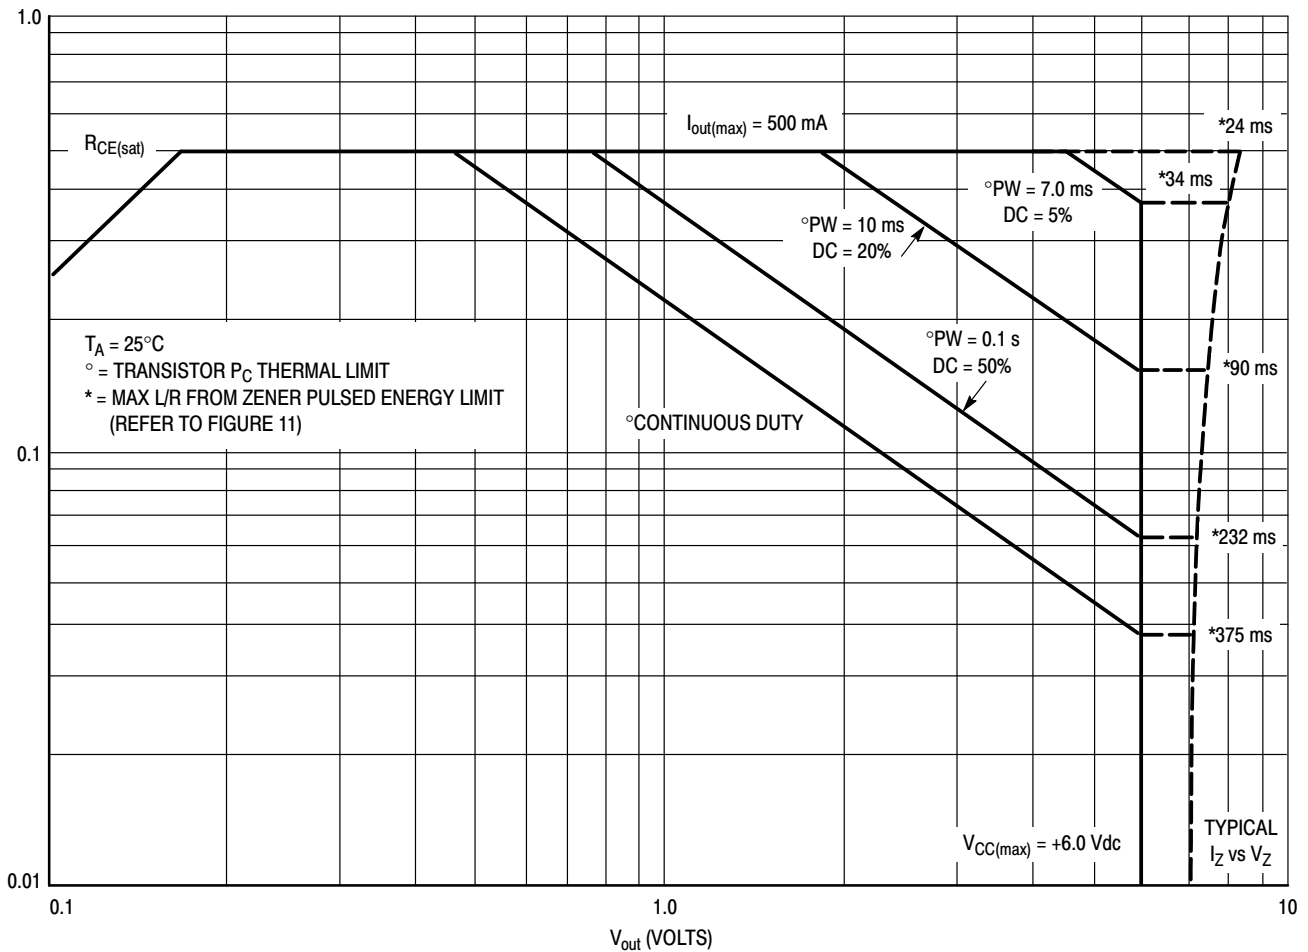
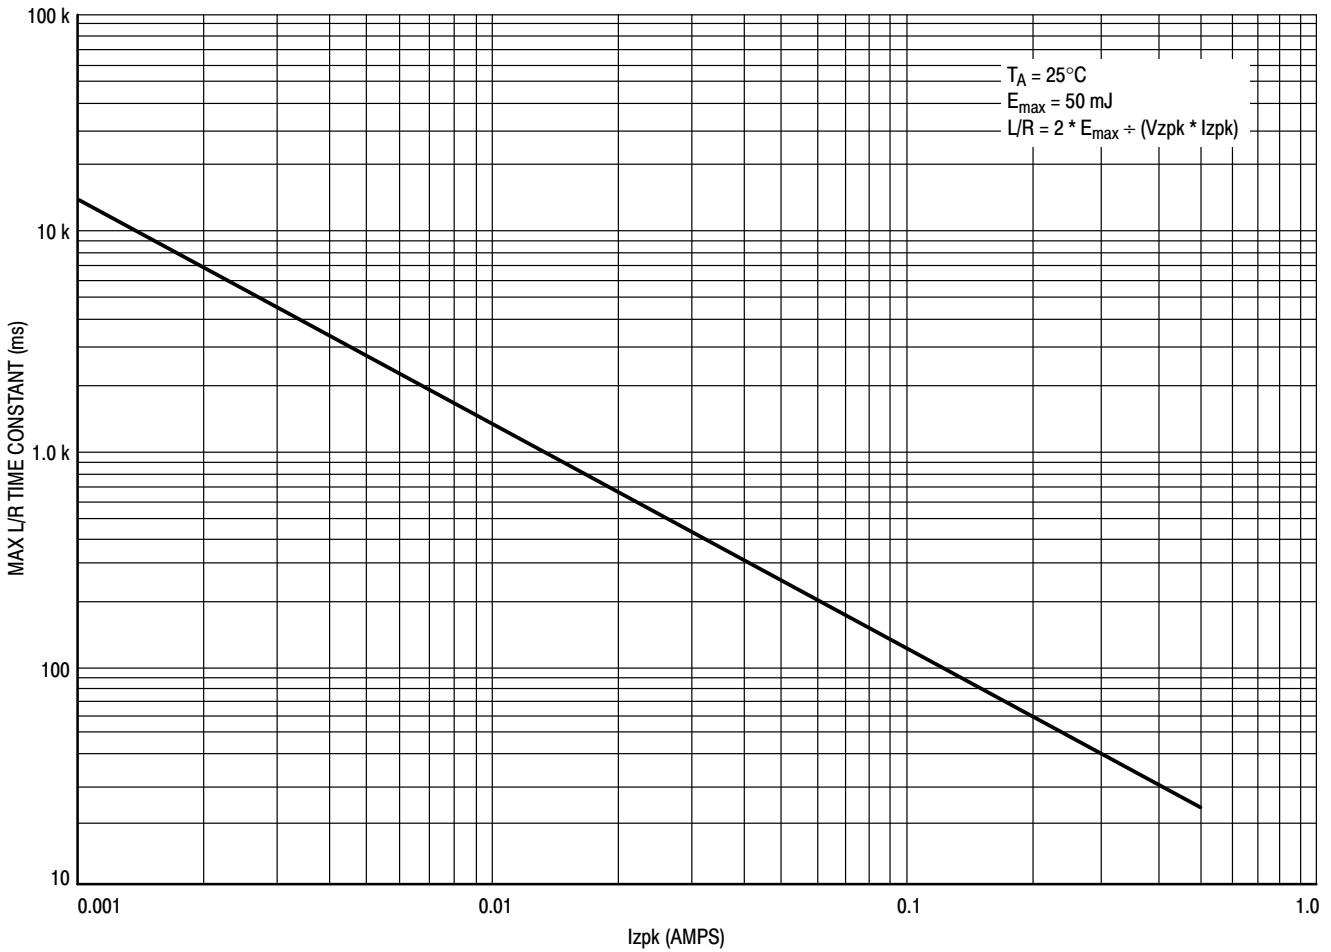

Figure 10. Safe Operating Area for MDC3105LT1
Figure 11. Zener Repetitive Pulse Energy Limit on L/R Time Constant for MDC3105LT1
Figure 10 is the Safe Operating Area (SOA) for the MDC3105. Device instantaneous operation should never be pushed beyond these limits. It shows the SOA for the Transistor "ON" condition as well as the SOA for the Zener during the turn-off transient. The max current is limited by the I_{zpk} capability of the Zener as well as the transistor in addition to the max input current through the resistor. It should not be exceeded at any temperature. The BJT power dissipation limits are shown for various pulse widths and duty cycles at an ambient temperature of 25°C. The voltage limit is the max V_{CC} that can be applied to the device. When the input to the device is switched off, the BJT "ON" current is instantaneously dumped into the Zener diode where it begins its exponential decay. The Zener clamp voltage is a function of that BJT current level as can be seen by the bowing of the V_Z versus I_Z curve at the higher currents. In addition to the Zener's current limit impacting this device's 500 mA max rating, the clamping diode also has a peak energy limit as well. This energy limit was measured using a rectangular pulse and then translated to an exponential equivalent using the 2:1 relationship between the L/R time constant of an exponential pulse and the pulse width of a rectangular pulse having equal energy content. These L/R time constant limits in ms appear along the V_Z versus I_Z curve for the various values of I_Z at which the Pd lines intersect the V_{CC} limit. The L/R time constant for a given load should not exceed these limits at their respective currents. Precise L/R limits on Zener energy at intermediate current levels can be obtained from Figure 11.
3. Use Figures 10 and 11 with the SOA notes above to insure that instantaneous operation does not push the device beyond the limits of the SOA plot.